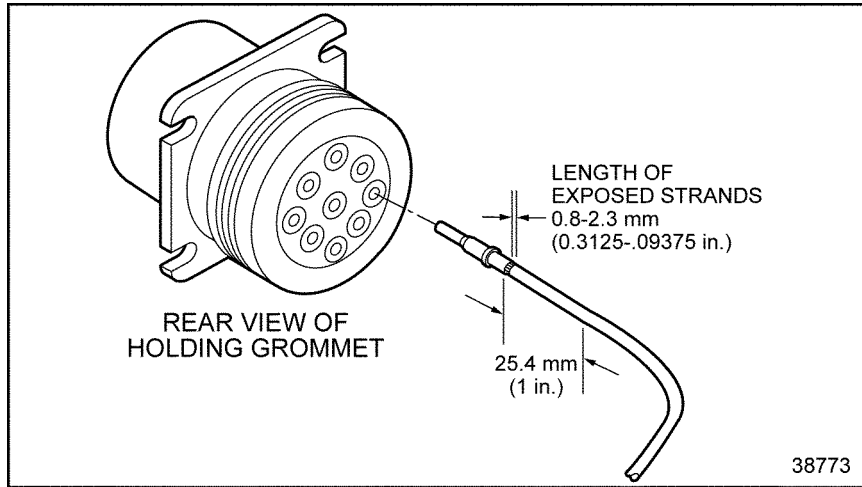
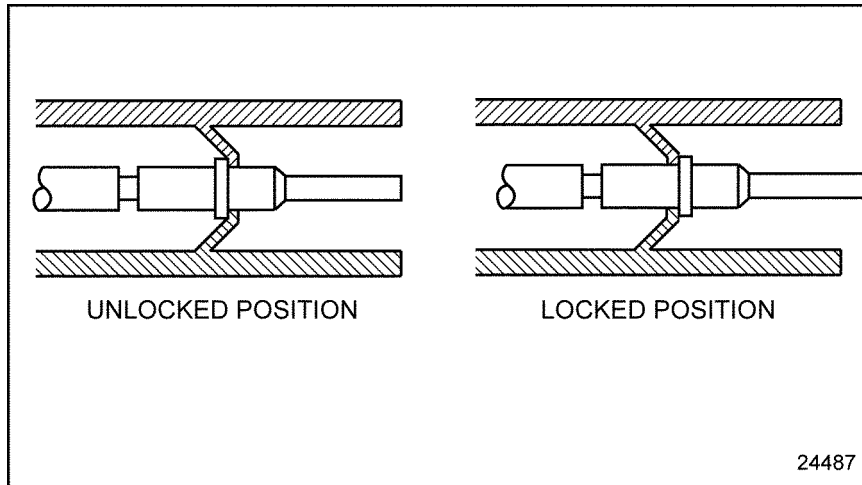

Figure 3-21 Pushing Terminal Into Grommet
Figure 3-22 Locking Terminal Into Connector
5. Grasp the terminal approximately one inch behind the terminal crimp barrel. Hold the connector with the rear grommet facing you. See Figure 3-21.
6. Push the terminal into the grommet until a positive stop is felt. See Figure 3-21. A slight tug will confirm that it is properly locked into place. See Figure 3-22.